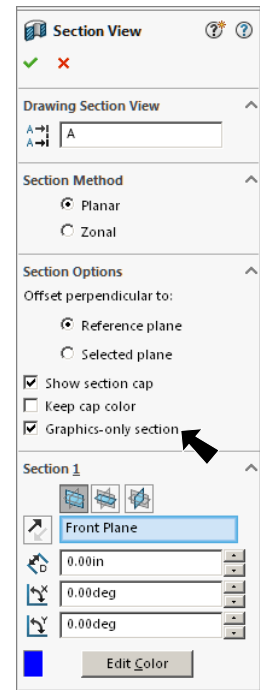

Fig. 37
Step 4. In the Section View Property Manager set: under Section Options, **Fig. 37** check **Graphics-only section** click OK .